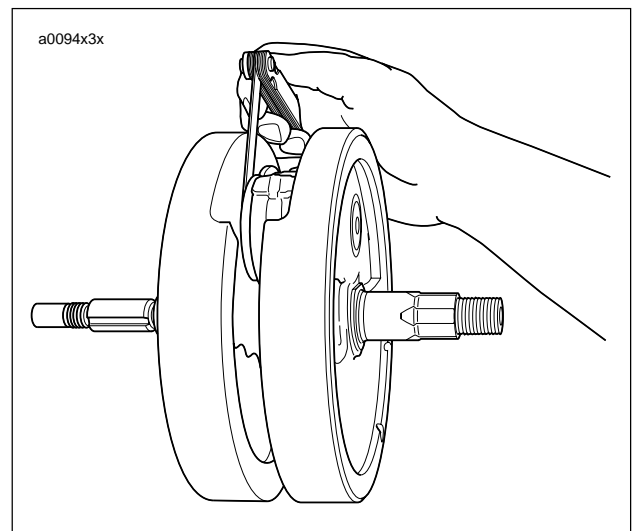

Figure 3-148. Checking Connecting Rod Side Play
1. See Figure 3-148. Check connecting rod side play with a thickness gauge as shown.